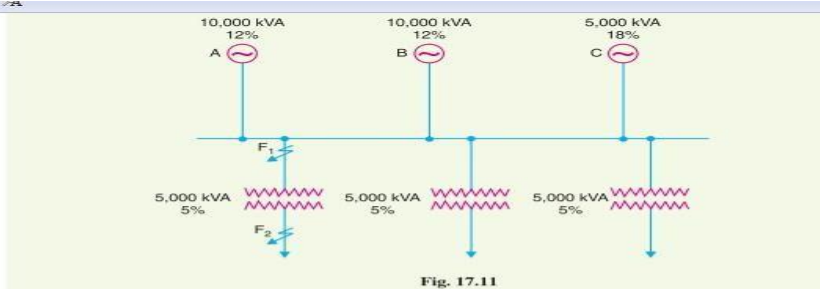

Fig. 17.11
Solution. Fig. 17.11 shows the single line diagram of the network. Let 10,000 kVA be the base kVA.
- (i) When the fault occurs on the low voltage side of the transformer (point F_1 in Fig. 17.11), the reactance diagram at the selected base kVA will be as shown in Fig. 17.12. Obviously, the
- (ii) When the fault occurs on the high voltage side of the transformer (point F_2 in Fig. 17.11), the reactance diagram will be as shown in Fig. 17.13.